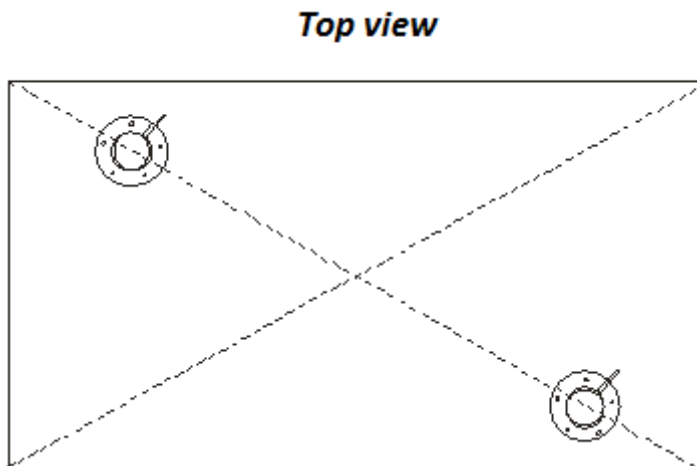

Figure 10.
3) To improve accuracy of the sensor and reduce the level variations it is allowed to install two sensors in one tank. It is commonly used in tanks with a capacity of more than 600 liters and length longer than 1500 mm. Sensors can be installed on the diagonal line at a distance of  $\frac{1}{3}$  of tank and  $\frac{2}{3}$  of tank as shown in Figure 10, 11.